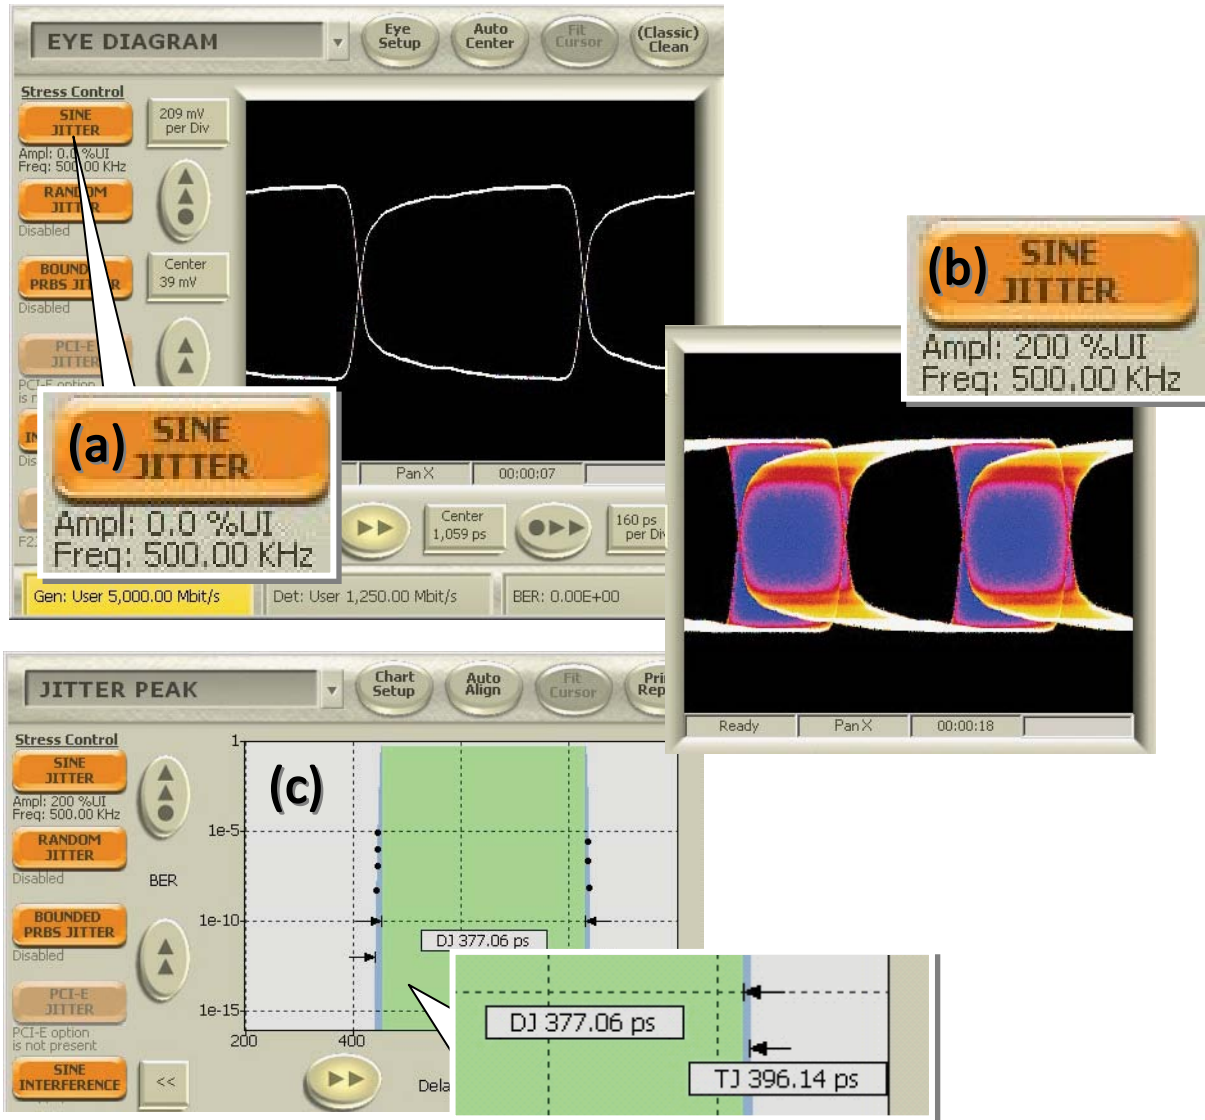

Figure 5. Measured results showing an eye diagram with no jitter applied (a), 2UI of jitter applied (b) and a successful measurement of TJ (c).
The unstressed eye diagram is shown in Figure 5(a). The effects of the filter and ISI are visible in the rounded edges, but are not relevant to understanding this example. 5(b) shows the same eye diagram with sinusoidal jitter added. Remember that the applied level is 2 UI, significantly beyond the measurement range of dual-Dirac-based measurement in normal use. Figure 5(c) shows a Jitter Peak measurement of Total Jitter (TJ). As expected, the measurement is dominated by Deterministic Jitter (DJ).